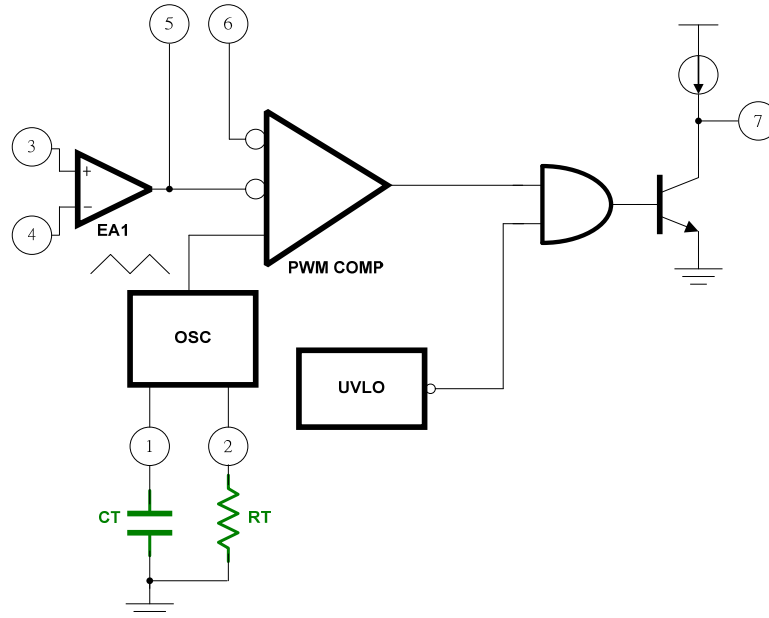
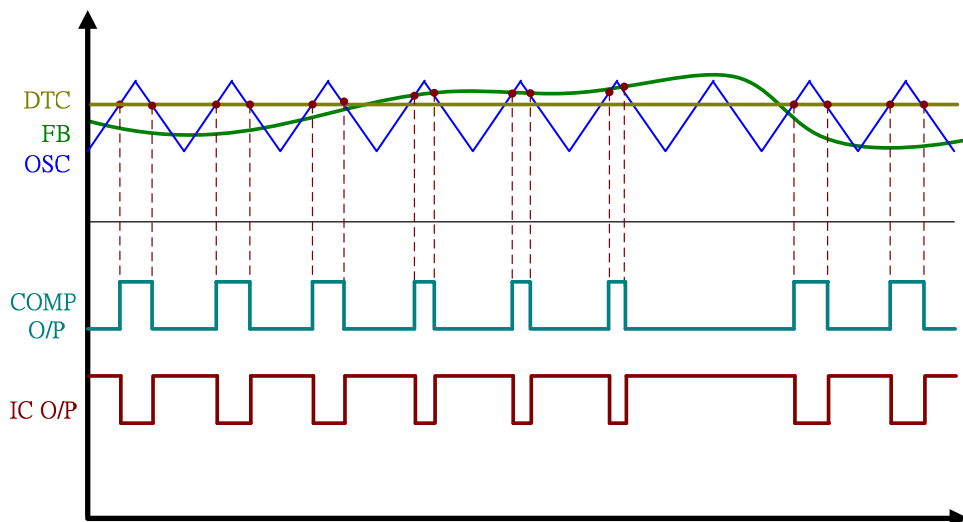

Figure 20 Oscillator / PWM Comparator with Frequency RC Circuits
Figure 21 FP5452 Timing Waveforms
The oscillator frequency can be adjusted from 20KHz to 500KHz by the resistor (RT) and capacitor (CT) that are connected to pin1 and pin2 respectively. A sawtooth waveform would be compared with the error amplifier output signal and duty control voltage. Figure 20 shows the relationship of oscillator, error amplifier and PWM comparator. Figure 21 is their waveforms.